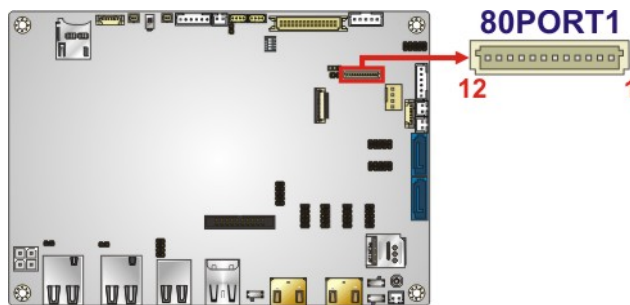

Figure 3-6: BIOS Debug Connector Location
- CN Location:** See **Figure 3-6**